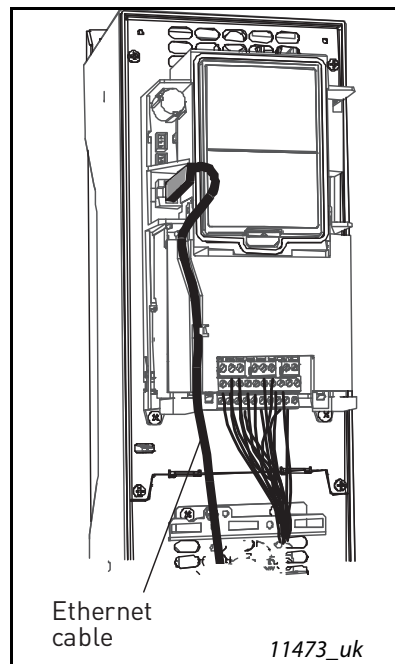

Figure 54.
- 1 Connect the Ethernet cable (see specification on page 54) to its terminal and run the cable through the conduit as shown in Figure 54.